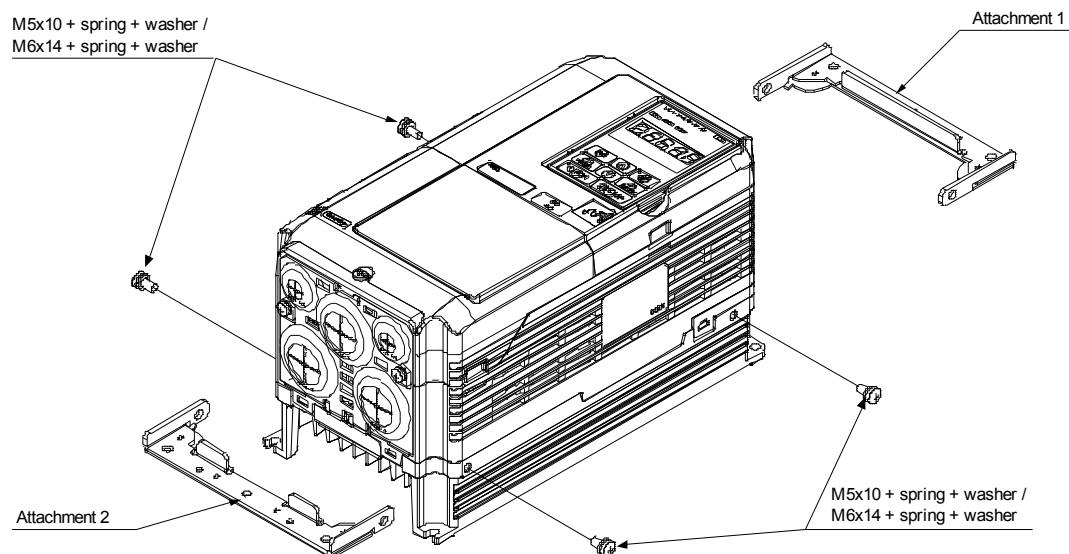

Figure 3: Step 2
2. Fix *Attachment 1* to the top and *Attachment 2* to the bottom of the inverter (Figure 3). Use the holes at the side of the device and screws with spring and washer. Use M5x10 for drives 2A004 to 2A0056 and 4A0002 to 4A0038 and M6x14 for drives 2A0069 and 4A0044.